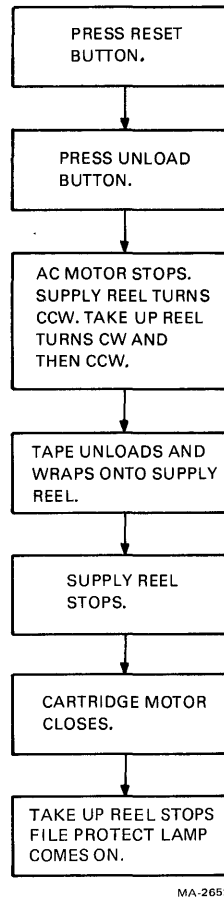

Figure 3-20 Unload Sequence
3.5.1.6 Unload Sequence – Follow the instructions and check for the events specified in Figure 3-20.